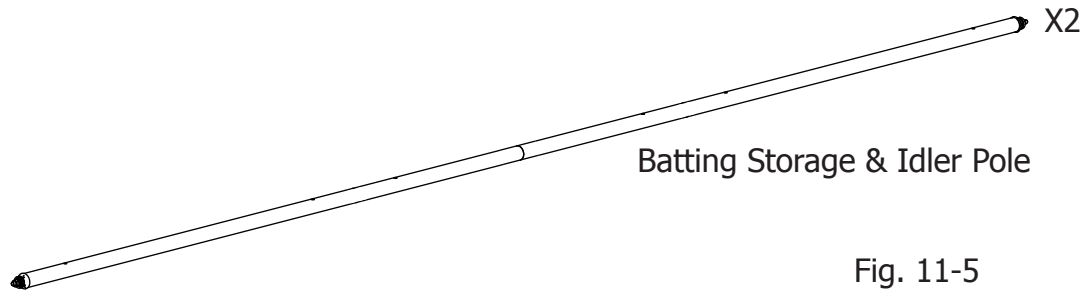

Fig. 11-5
**11-7:** Repeat **steps 11-5** and **11-6** to add a second pole end to the other open end of the pole assembly just built and one pole end to each of the remaining 3 pole assemblies (**Fig. 11-5**). Repeat the process and set the two poles with two pole ends aside as the **batting storage pole and the idler pole**.